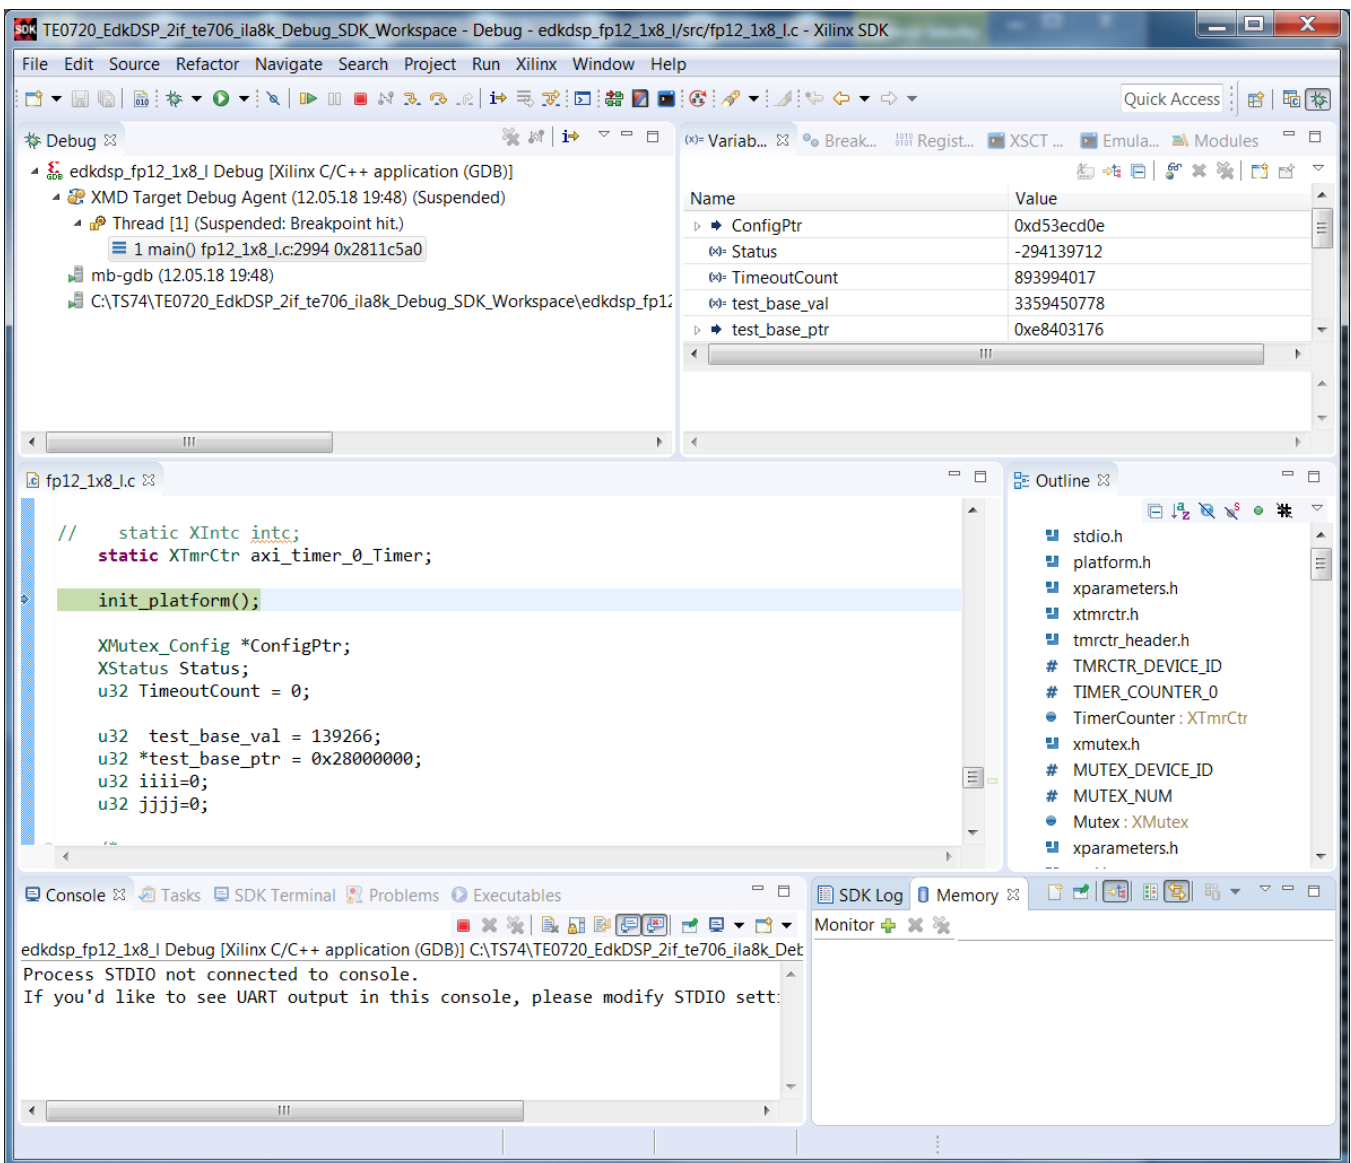

Figure 27: Select free run of MicroBlaze project `edkdsp_fp12_1x8_l`.
- In the SDK debugger, step through the MicroBlaze source code, inspect the content of variables, set breakpoints etc. See *Figure 27*.
- In the SDK debugger, select free run of the MicroBlaze code. See *Figure 27*.